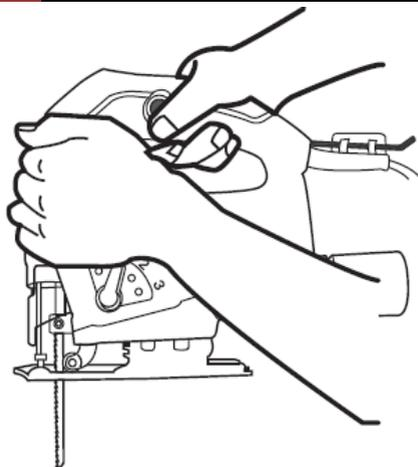

fig. 5
1. Hold the jig saw with one hand on the handle (3), and the other on the front holding area (11) (Fig. 5)
3. The lock (2) may be pressed with your thumb.